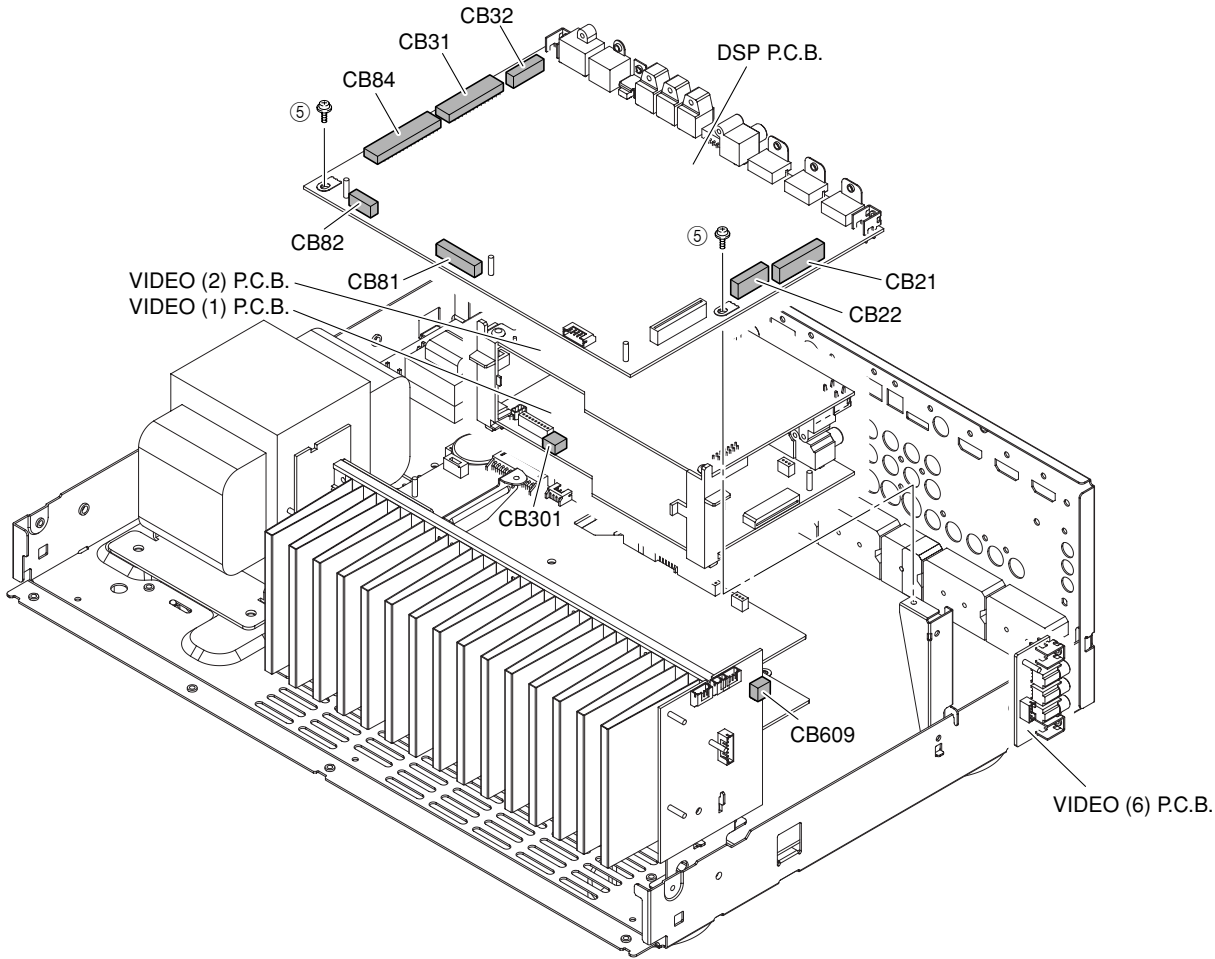

Fig. 2
- a. Remove 2 screws (⑤). (Fig. 2)
- c. Remove CB21, CB22, CB31, CB32, CB81, CB82 and CB84. (Fig. 2)
- d. Remove DSP P.C.B. (Fig. 2)
- b. Remove VIDEO (6) P.C.B. (Fig. 2)
- d. Remove CB301 and CB609. (Fig. 2)
- e. Remove VIDEO (1) and (2) P.C.B.s. (Fig. 2)